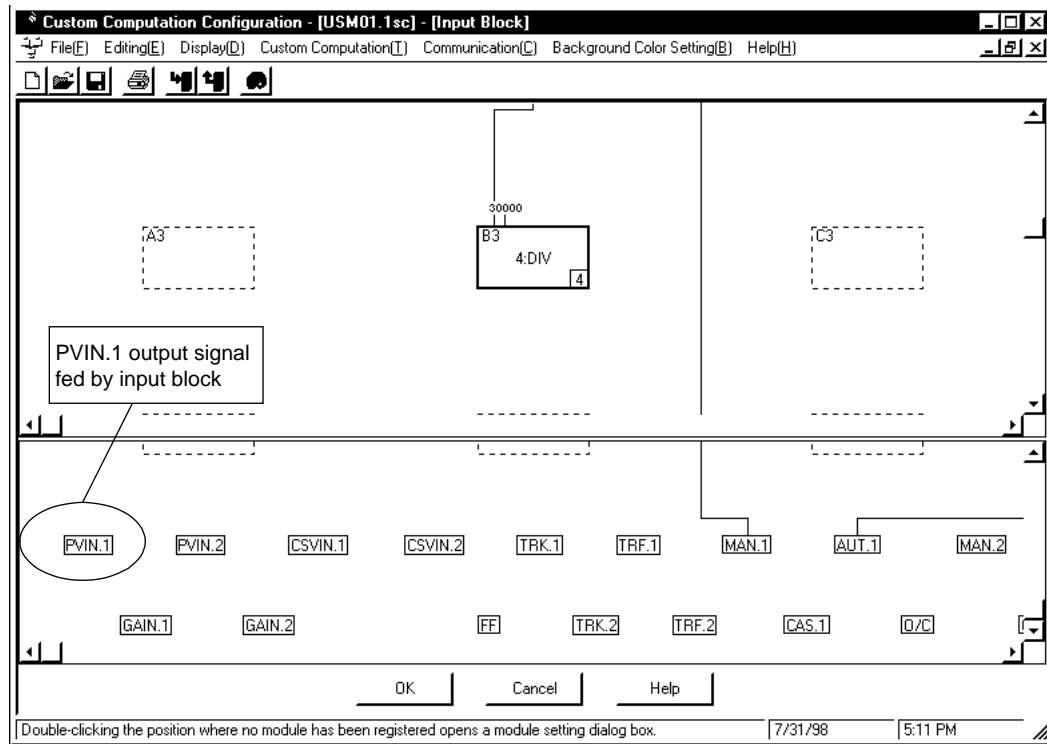

Figure 12.1.12 Output Signal Fed by Input Block
- ① In the [Input Block] dialog box (Figure 12.1.12), click the <PVIN.1> output signal.